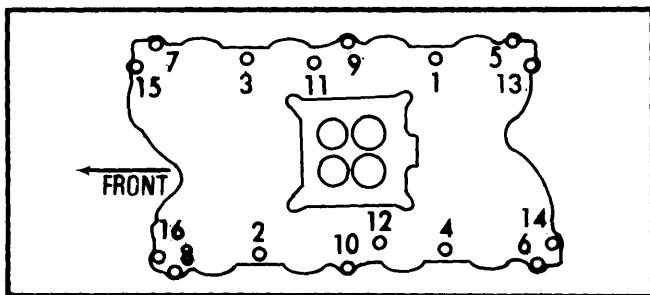

Fig. 1 Intake Manifold Tightening Sequence
2) Lower manifold on engine and check for correct positioning of gaskets and seals before installing bolts. Install bolts and tighten in two steps in sequence (see Fig. 1).